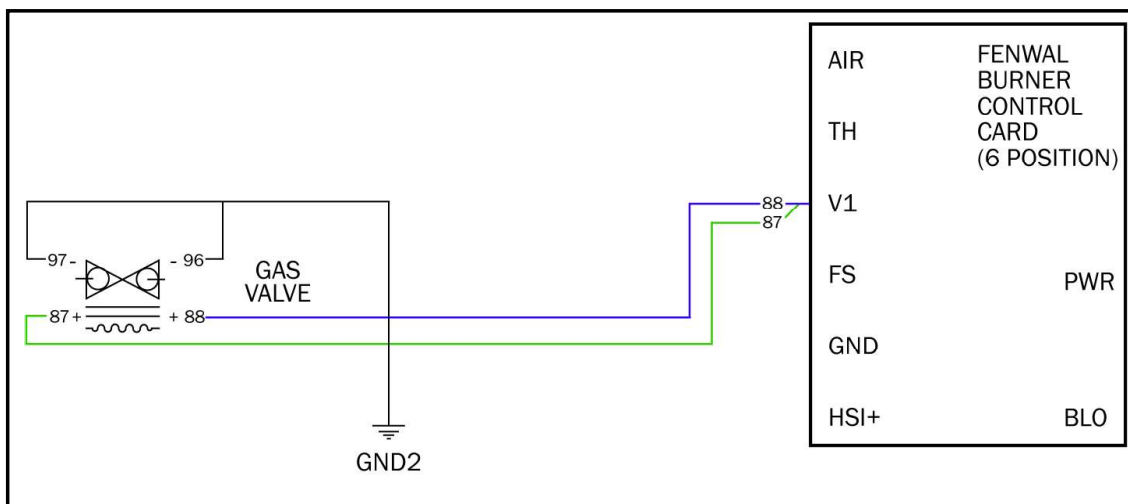

Figure 105
- Using a digital voltmeter, check the #87 (green) wire, on the white plug, plugged into the Propane Burner Controller for 12V DC (see Figure 105). If no voltage is present, replace the Propane Burner Controller.
- Using a digital voltmeter, check the #87 (green) wire, on the right side of the gas valve for 12V DC, and the #88 (blue) wire, on the left side of the gas valve for 12V DC (see Figure 105). If no voltage is present, inspect wire harness for damage.